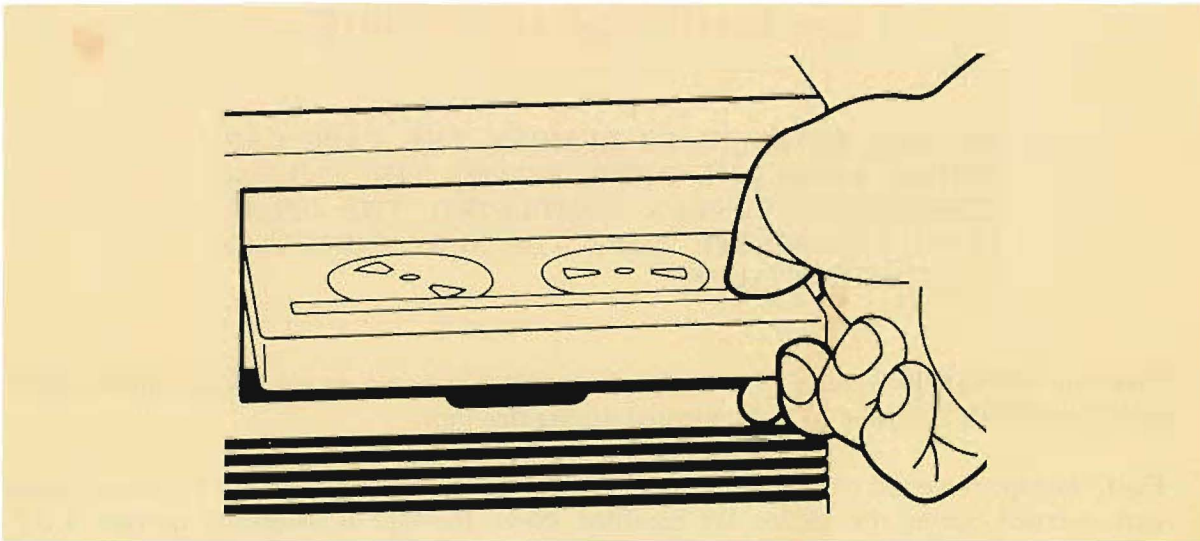

Figure 9. Tape Cartridge Loading
- c. Position the tape cartridge adjacent to the tape cartridge slot **18**. (See Figure 9, Tape Cartridge Loading.)